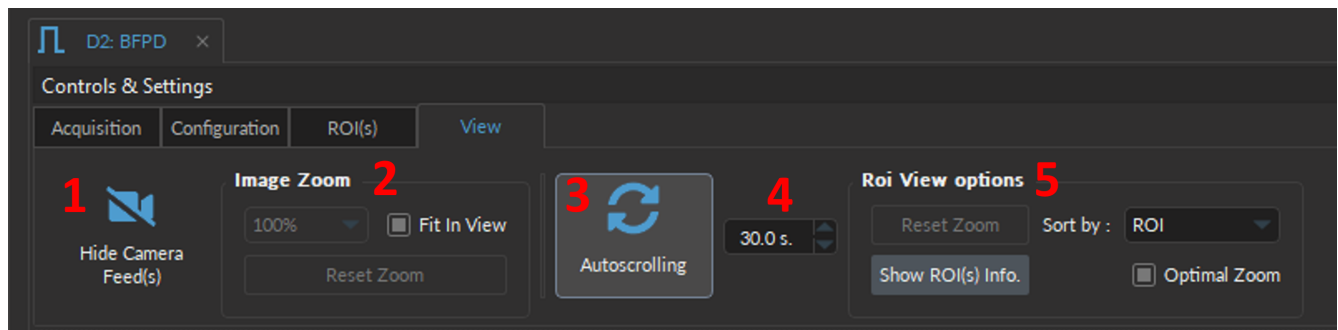

Figure 9.11: View Tab
The **View Tab** (Fig. 9.11) is used to modify the presentation of graphs in the **Acquisition view**.
1. The **Hide Camera Feed(s)** button (Fig. 9.11, 1) will remove the **Camera View** from the **Acquisition View**, automatically enlarging the **ROIs View**. Disabling the same button (renamed **Show Camera Feed(s)**) makes the **Camera View** reappear.
2. The **Image Zoom** (Fig. 9.11, 2) includes the following:
3. The **Autoscrolling** button (Fig. 9.11, 3), when selected, automatically sets the graphs to scroll as new data appears.
4. the **Autoscrolling range** (Fig. 9.11, 4) sets the graph zoom to the value of choice, specified in the text-box.
5. The **ROI View Options** (Fig. 9.11, 5) includes the following: